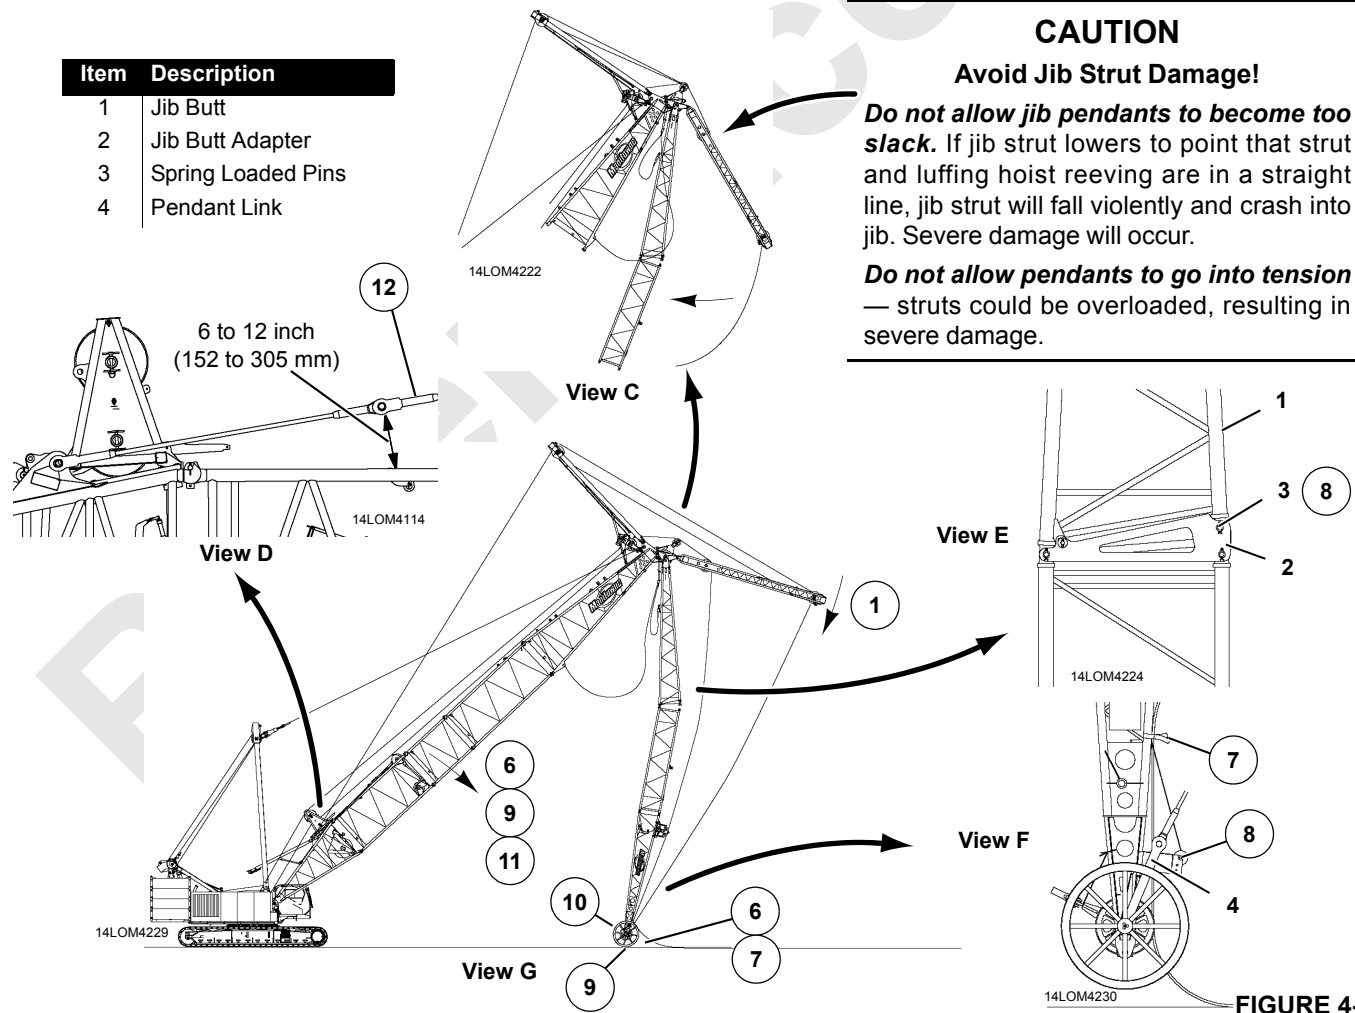
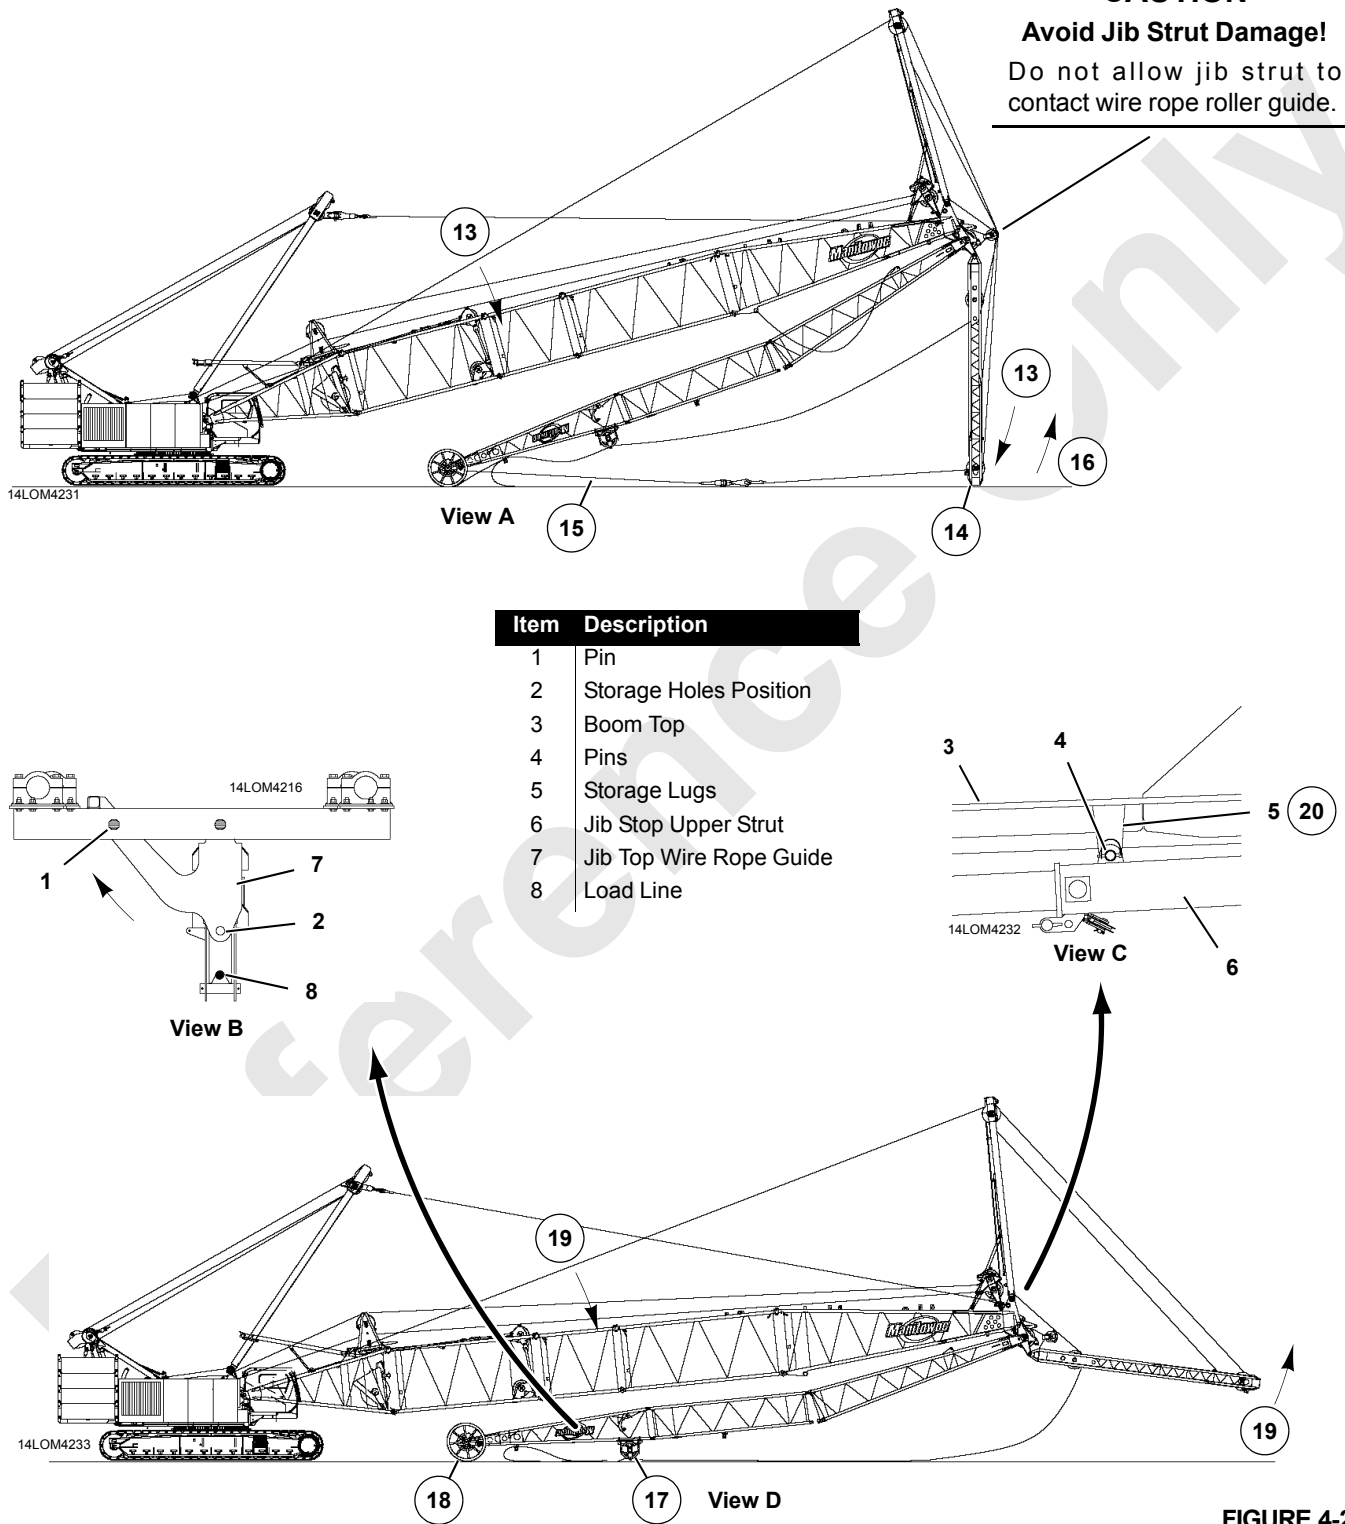

FIGURE 4-24
FIGURE 4-25
See Figure 4-24 and Figure 4-25 for the following procedure.
Circled item numbers in Figure 4-24 correspond to numbered steps in the following procedure.
12. Operator, watch backstay pendants along left side of the boom. Luff up and down, as required, while the boom and jib lower so backstay pendant connectors nearest you remain 6 to 12 in (152 to 305 mm) above boom chord (Figure 4-24, View D).
Circled item numbers in Figure 4-25 correspond to numbered steps in the following procedure.